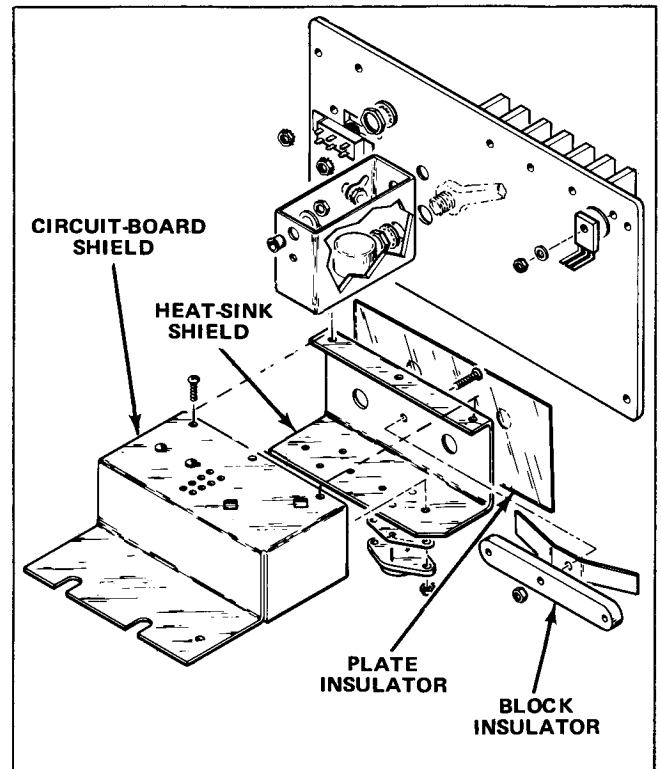

Fig. 3-8. Exploded-view drawing of a portion of the power unit identifying several critical parts.
To remove the Rectifier and Filter board, use the following procedure. An exploded-view drawing of the power unit is shown in the Mechanical Parts List. Also, several critical parts are identified in Fig. 3-8, an exploded-view drawing of a portion of the power unit.
To remove the Power Supply Inverter board, use the following procedure. An exploded-view drawing of the power unit is shown in the Mechanical Parts List. Several critical parts are identified in Fig. 3-8, an exploded-view drawing of a portion of the power unit.
*The power-unit assembly has been tested at the factory to assure safe operation. Improper repair of this unit can result in hazardous voltages on the chassis of this instrument. Do not remove the plate insulator, block insulator, or transistor shield from the rear heat sink (see Fig. 3-8).*